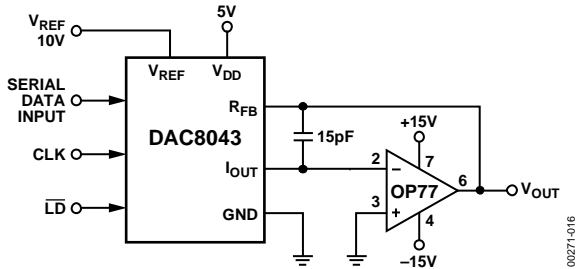
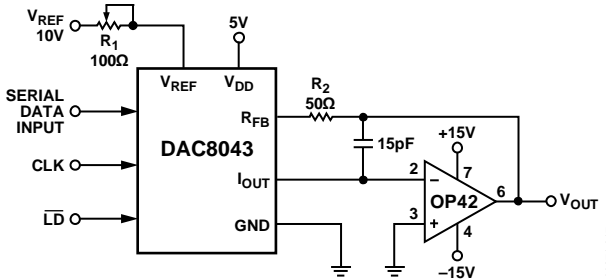
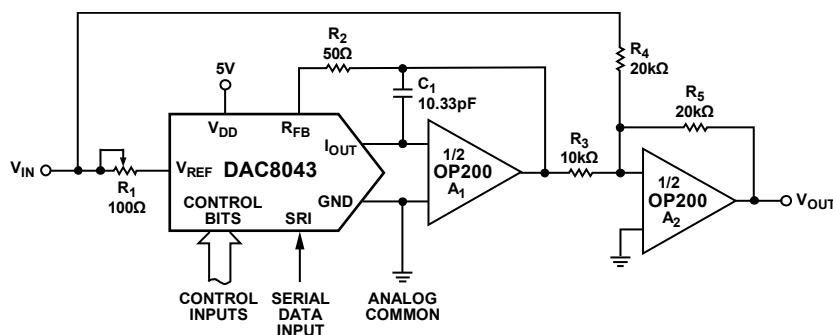

Figure 16. Unipolar Operation with High Accuracy Op Amp (2-Quadrant)
Figure 17. Unipolar Operation with Fast Op Amp and Gain Error Trimming (2-Quadrant)
Figure 19. Bipolar Operation (4-Quadrant, Offset Binary)
1. Phase compensation (see Figure 16 and Figure 17).
In most applications, linearity depends upon the potential of the IOUT and GND pins being equal to each other. In most applications, the DAC is connected to an external op amp with its noninverting input tied to ground (see Figure 16 and Figure 17). The amplifier selected should have a low input bias current and low drift over temperature. The amplifier's input offset voltage should be nulled to less than 200 μV (less than 10% of 1 LSB).
The circuits shown in Figure 16 and Figure 17 may be used with an ac or dc reference voltage. The output of the circuit ranges between 0 V and approximately -VREF (4095/4096), depending upon the digital input code. The relationship between the digital input and the analog output is shown in Table 6. The limiting parameters for the VREF range are the maximum input voltage range of the op amp or ±25 V, whichever is lowest.
Gain error may be trimmed by adjusting R1, as shown in Figure 17. The DAC register must first be loaded with all 1s. R1 may then be adjusted until VOUT = -VREF (4095/4096). In the case of an adjustable VREF, R1 and R2 may be omitted, with VREF adjusted to yield the desired full-scale output.
1 Nominal full scale for Figure 16 and Figure 17 circuits is given by
2 Nominal LSB magnitude for Figure 16 and Figure 17 circuits is given by
Figure 19 details a suggested circuit for bipolar, or offset binary, operation. Table 7 shows the digital input to analog output relationship. The circuit uses offset binary coding. Twos complement code can be converted to offset binary by software inversion of the MSB or by the addition of an external inverter to the MSB input.
MSB      LSB	(V OUT as Shown in Figure 19)
1 Nominal full scale for Figure 19 circuits is given by
2 Nominal LSB magnitude for Figure 19 circuits is given by
The transfer function for the DAC8043 connected in the multiplying mode, as shown in Figure 16, Figure 17, and Figure 19, is